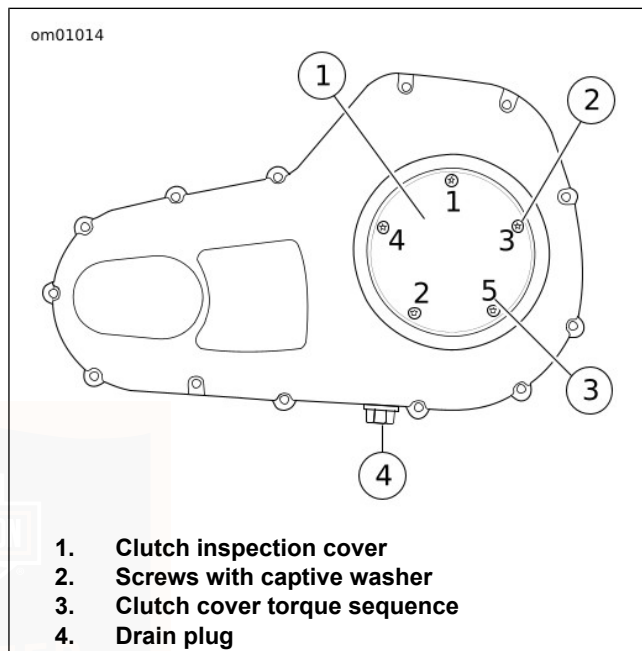

Figure 53. Primary Chaincase Cover
3. See Figure 53. Remove clutch inspection cover from primary chaincase cover.
2. See Figure 53. Remove clutch inspection cover from primary chaincase cover.
9. See Figure 53. Install clutch inspection cover. Tighten screws in the sequence shown to 9.5–12.2 N·m (84–108 in-lbs).